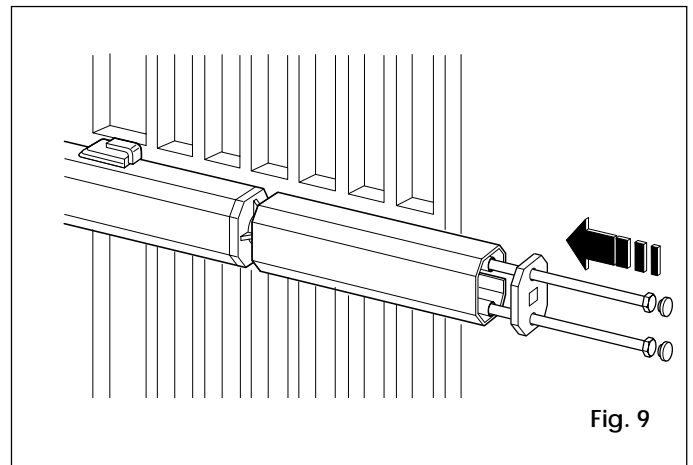
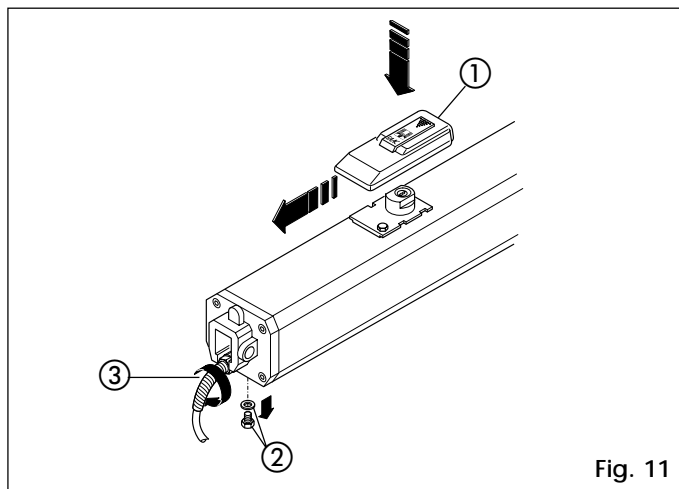

Fig. 9
Fig. 11
12) Fit the cover on the operator as shown in Fig. 9. Fit the cable sheath (3, Fig. 11).
- Fit the release unit cover (1 Fig. 11).
- Remove the breather screw (2, Fig. 11).